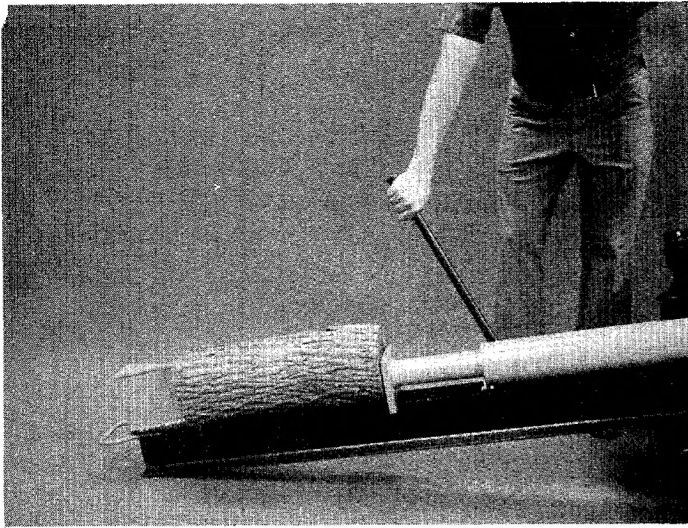

FIGURE 10
- F. Remove your hand from the log and step behind the ram. See figure 10.